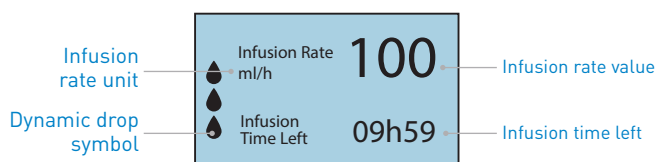

Figure 1: Pump screensaver
4. The water droplet symbol flowing on the left of the LCD display screen indicates the infusion pump is working. After 15 seconds in the screensaver mode, the pump screen displays the infusion rate values, the infusion rate unit, infusion time left and the dynamic water droplet symbol, as shown in Figure 1.